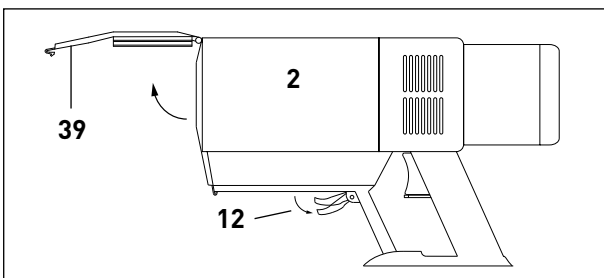
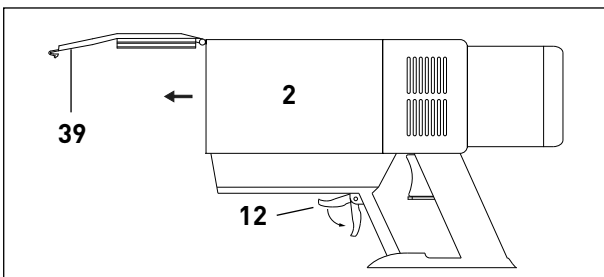

Figure 14
Figure 15
Hold the dust container over trash receptacle. Pull the dust container release lever halfway (#12 figure 14). **The dust container lid (39) is spring loaded and will pop open.** Contents can then be emptied. For more comprehensive cleaning, the dust container can be fully removed by pulling the lever (#12 figure 15) all the way down. Once the dust container is fully removed from the suction unit, it can be cleaned with warm water and mild detergent. Rinse thoroughly and air dry for at least 24 hours before use.